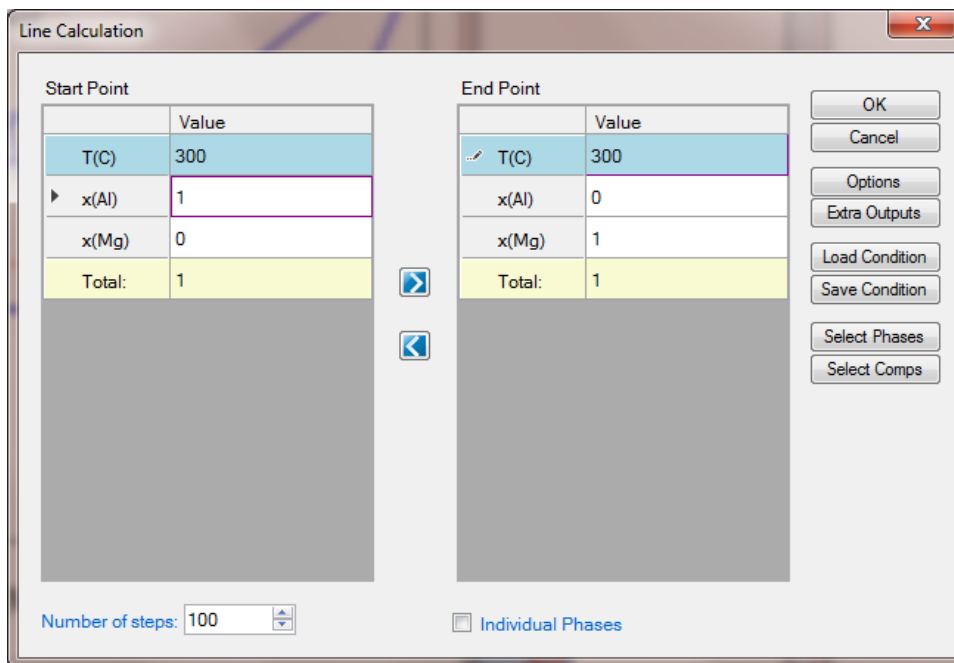

Figure 1.2.2: 1D calculation from pure Al to pure Mg at 300oC
- Set Calculation Condition as shown in Figure 1.2.2;